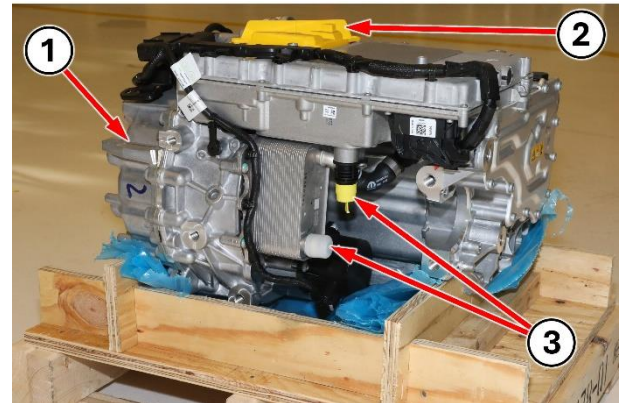

Figure 44 – EDM Shipping
88. Remove the **NEW** EDM shipping covers and plugs then transfer them to the **OLD** EDM for return shipping (Figure 44).